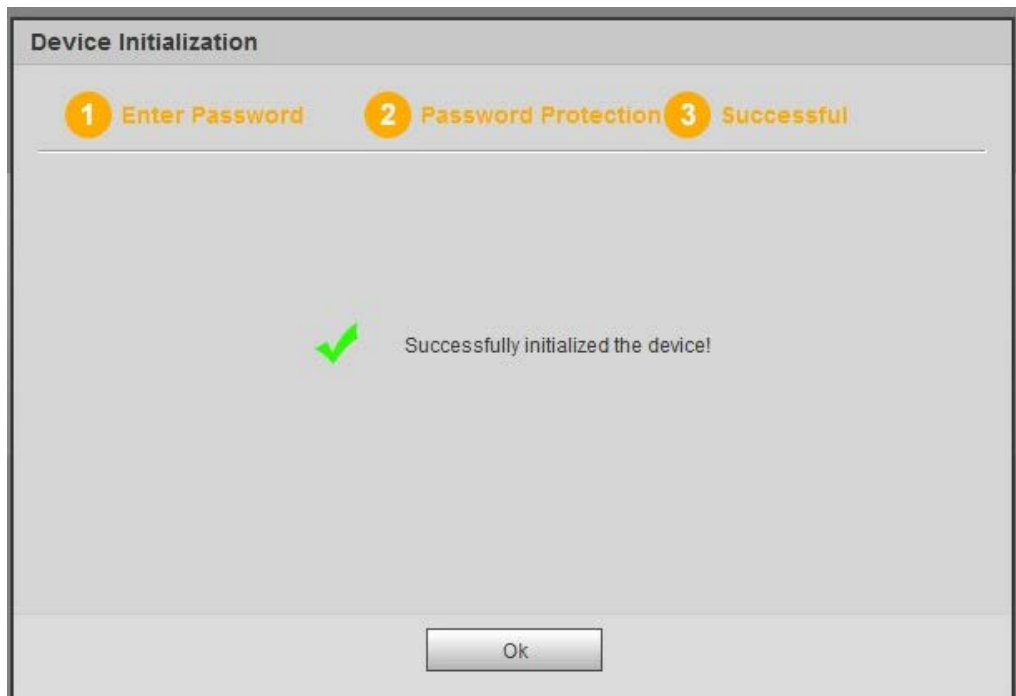

Figure 4-3
Step 6 Click OK to complete the device initialization setup. See Figure 4-3.